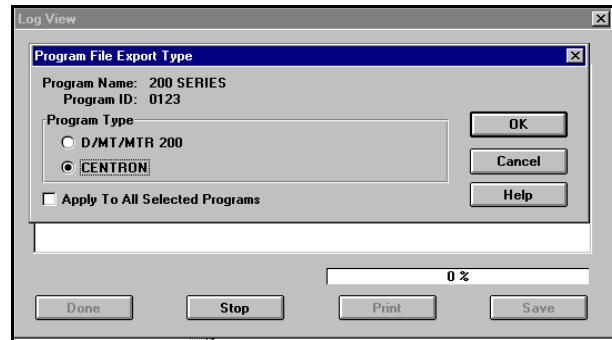

Figure 5.6 Program File Export Type
- 5 Select **CENTRON** export format as shown in Figure 5.6 above.